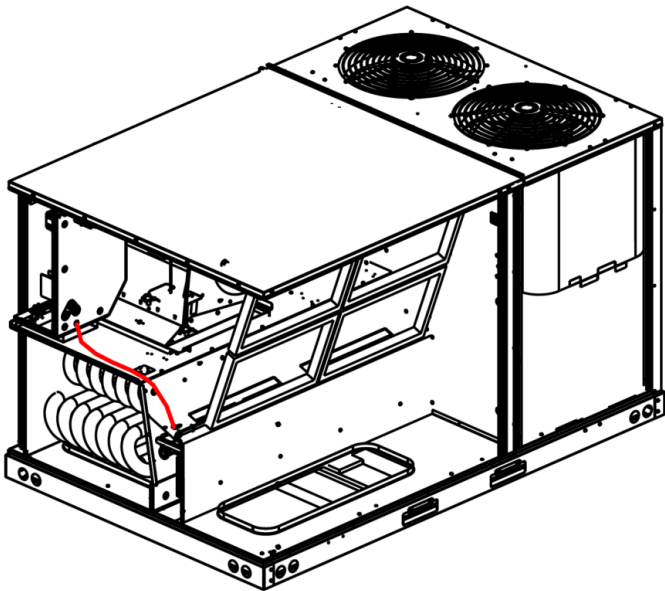

Figure 17
- Route the 2 way connector from the back of the control box through the bushing on the coil bottom support as shown in Figure 17. Attach the 2 way connectors outside of the drain pan. **Note:** The return panel, supply panel, and evaporator coil have been hidden for clarity